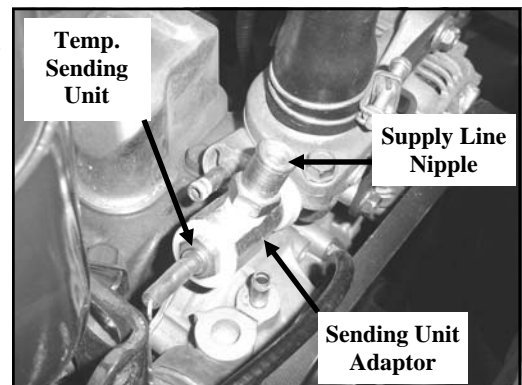

FIG. 2
2. Ref. FIG. 2. For the supply line to the heater, remove the temperature sending unit from the right side of the lower thermostat housing. Install the supplied universal sending unit adaptor to the thermostat housing where the sending unit was removed, using the small hex bushing and small washer, the adaptor and a large washer, a 3/8" NPT supply line nipple in the side port of the adaptor and replace the sending unit to the port on the end of the adaptor. Per FIG. 2, the 3/8" supply line nipple should be pointing up after installation—if it does not, remove the adaptor and install another plastic washer and try again. Note: Removing the vehicle's bypass hose should ease installation of the adaptor. Replace bypass hose when installation of the adaptor is complete.